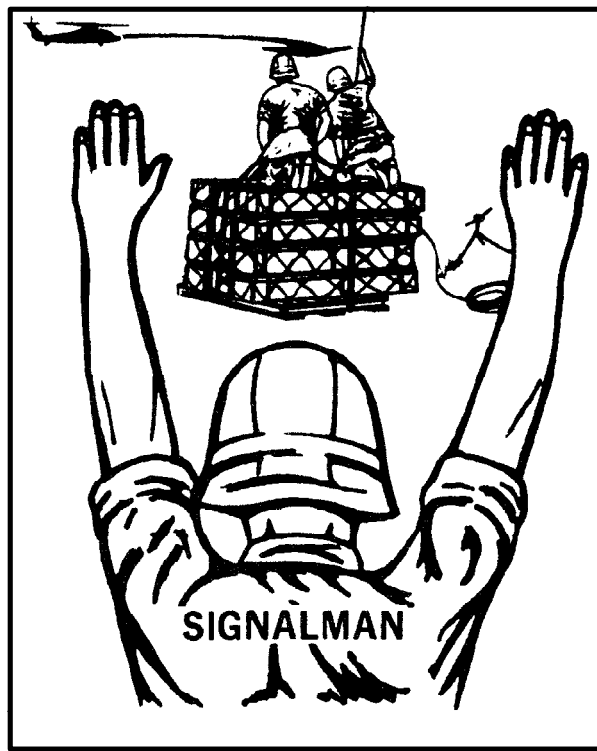

Figure 5-2. Ground Crew Initial Position
**e. Positioning Personnel (Army).** As the helicopter approaches the landing site, the ground crew personnel put on their equipment and take up their positions. The signalman positions himself at the aircraft's 12 o'clock position, upwind of the load, facing the load and the aircraft (Figure 5-2). The USMC outside director is referred to as a signalman.